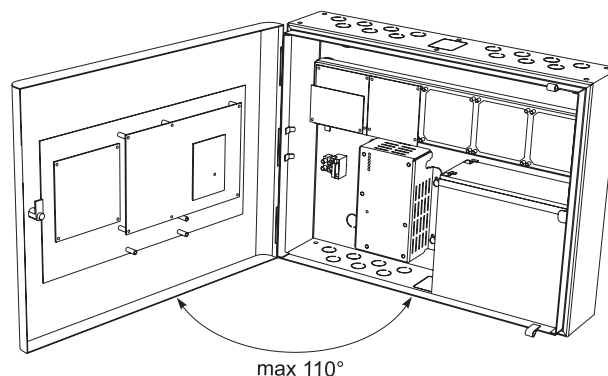

Figure 7B
• Open the front cover. **Attention:** The cover is mounted to the box bottom with hinges fixed with dismantable rivets. The angle of opening of the front cover must not be greater than 110° - Figure 7B!